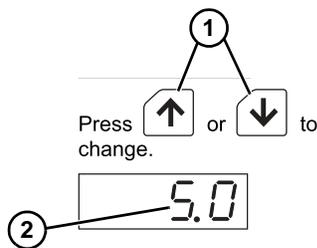

Figure 29
- Press up or down (Figure 29, item 1) to change the acceleration time (e.g., 5.0) (Figure 29, item 2). Pressing and holding the key for 3 seconds or more will increase or decrease the value successively